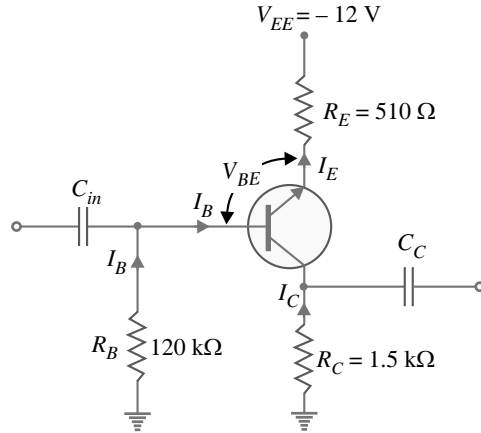

Fig. 7.45
**Example 7.38.** Calculate the operating point of the circuit shown in Fig. 7.45. Given  $\beta = 60$  and  $V_{BE} = 0.7 \text{ V}$ .